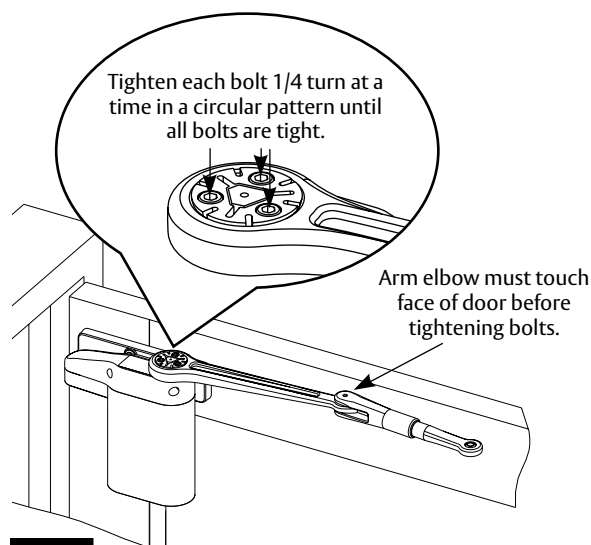

Figure 14
1. With arm coupling bolts facing up and arm elbow against door, place larger end of arm onto pinion shaft. (Figure 14)
2. With arm elbow still touching face of door, tighten coupling bolts evenly (one quarter turn at a time in a circular pattern) until **fully tight** using 3/16" hex wrench. (Figure 14)